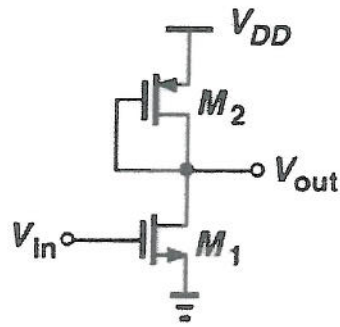
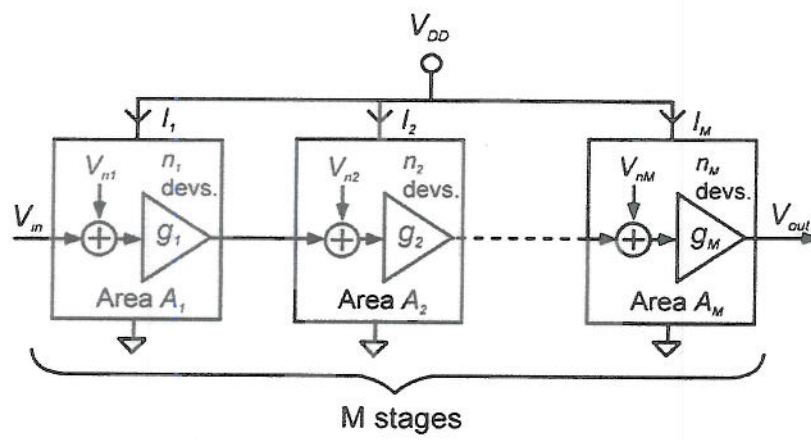

Figure 1.1
Figure 1.2
- c) Figure 1.1 shows a common source amplifier with a diode-connected load. Both transistors are operating in weak inversion. The gain of this amplifier is given as:
- d) Figure 1.2 shows a cascade of amplifiers whereby each stage uses the circuit from Figure 1.1. For the following question assume that the total stages $M=2$ and the constant $P=1$ for weak inversion operation.